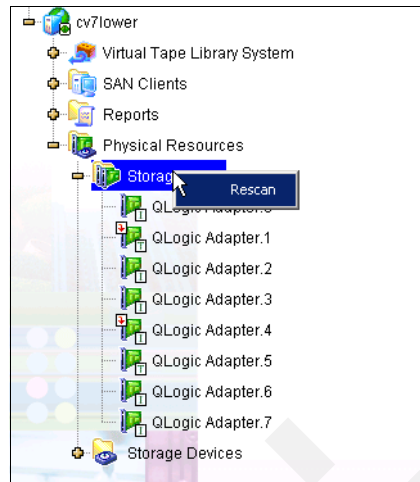

Figure 13-11 Rescan of all HBAs
1. Select **<your TS7500> node** → **Physical Resources** → **Storage HBAs**. Right-click and select **rescan** to rescan all HBAs for new devices, as shown in Figure 13-11.
Look at the LUNs. If they are configured on the TS7500, you see the information shown in Figure 13-11. Notice that a small V indicates that this server is the owner. A small F indicates that another server is the owner of the LUN.